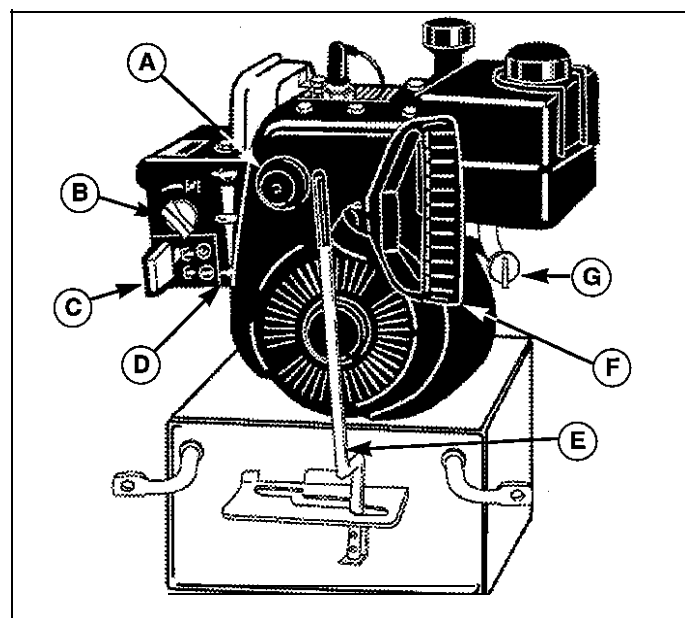

Figure 5. Engine Controls
7. Check shift lever (E, figure 5) for proper position. If adjustment is required, see SHIFT CONTROL ADJUSTMENT in the Service Section.
1. Move the ground speed shift lever (E, figure 5) to the Neutral position.
2. Turn the fuel valve (G, figure 5) to the ON position.
3. Insert the ignition key (C, figure 5) into the ignition switch and push fully in to the RUN position.
4. Move the throttle lever (D, figure 5) fully up to the FAST position.
4. Turn the choke knob (B, figure 5) fully counterclockwise if engine is cold. Do not choke a warm engine.
5. Push the primer button (A, figure 5) two times if engine is cold. Do not prime a warm engine.
6. Pull starter handle (F, figure 5) rapidly or push starter button if equipped with the electric start. Do not allow starter handle to snap back. Let the starter rope rewind slowly while keeping a firm hold of the starter handle.
- Before stopping engine, pull the starter rope twice and allow it to rewind slowly, then stop the engine by moving the throttle lever (D, figure 5) all the way down or by pulling out on the ignition key. This will prevent freeze-up.